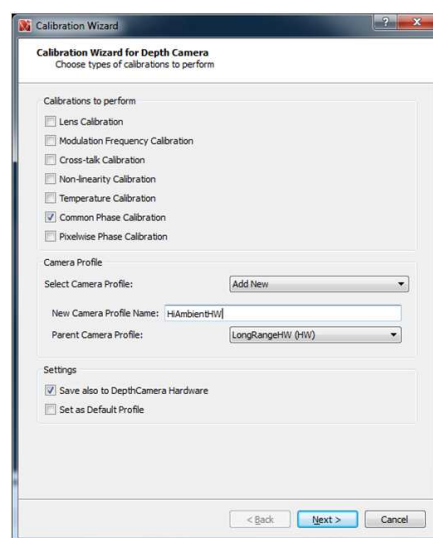

Figure 39. High Ambient Profile Settings
With the current operating profile set at **High Ambient** (**Settings** → **Camera Profiles** → **High Ambient**), bring up the Calibration Wizard (**Settings** → **Edit Profiles**), configure the checkboxes as in Figure 39. The profile to save to is “HiAmbientHW”. This profile also inherits from the **LongRangeHW (HW)**. Click **Next** and proceed with Common Phase Calibration as before. When this step is completed, **HiAmbientHW** and **HiAmbientHW (HW)** profiles are created.